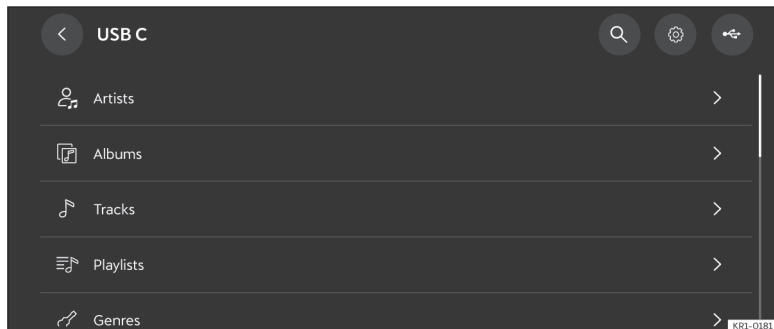

Fig. 159 Schematic representation: Media view
- Press **Menu** > **USB** >>> **Fig. 159**.